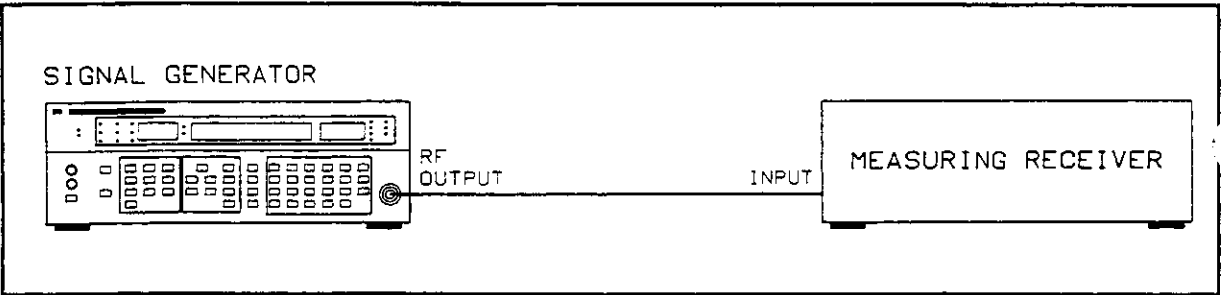

Figure 4-9. Modulation Test Setup
- 1. Connect the RF OUTPUT of the Signal Generator to the input of the measuring receiver as shown in Figure 4-9.